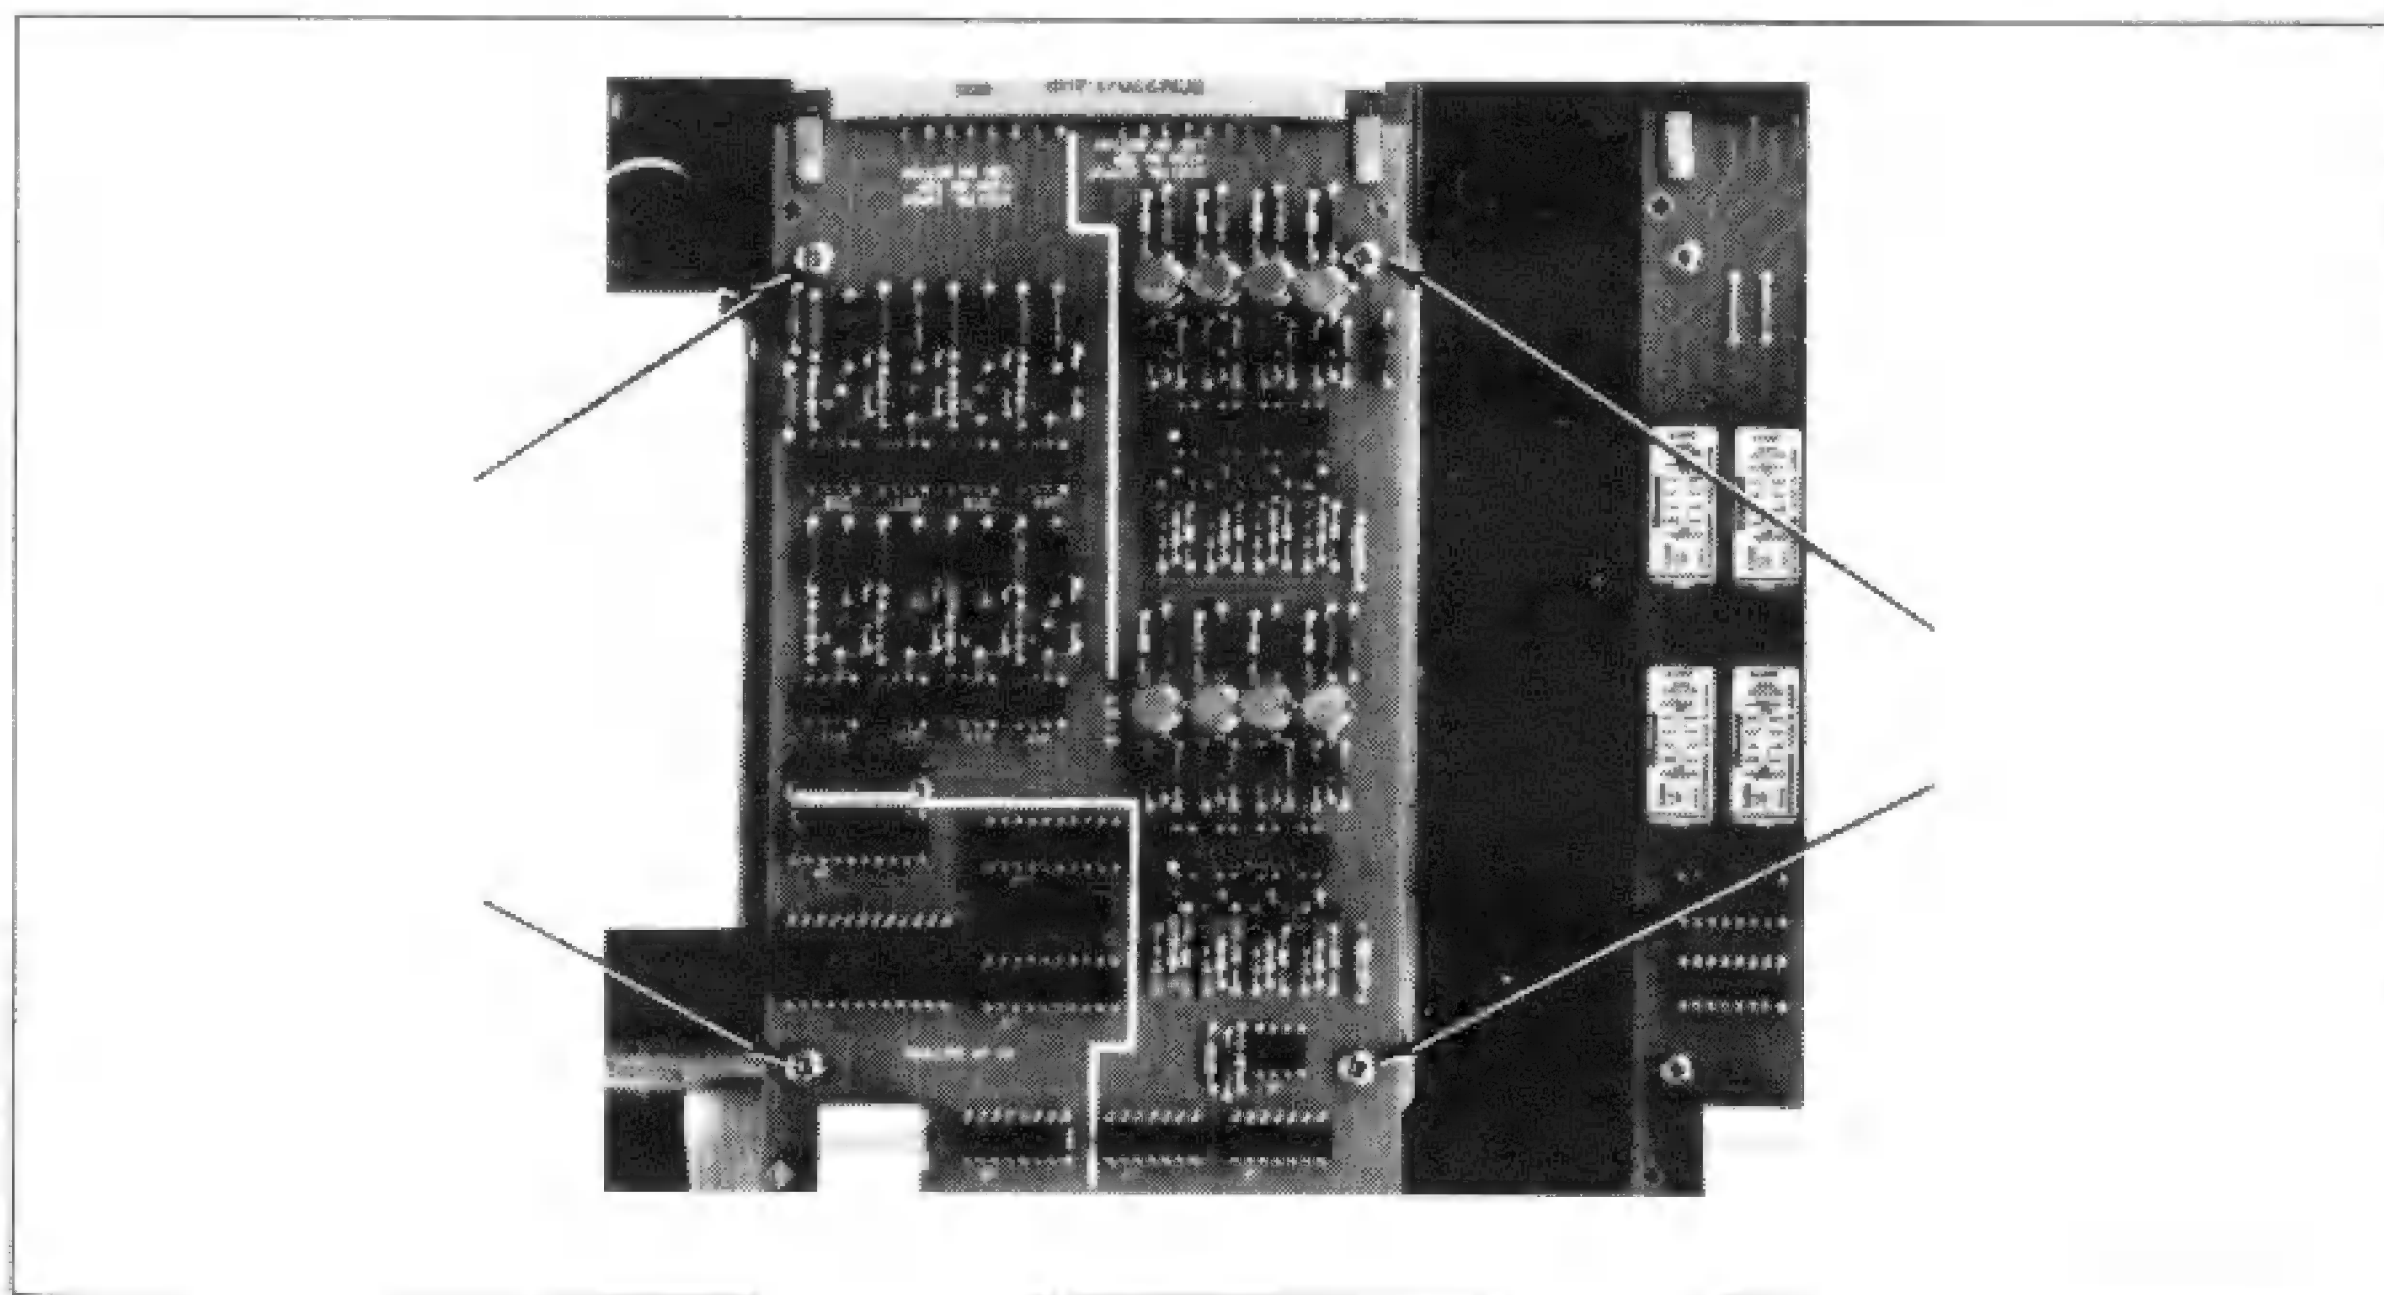

**Figure 4-2-2. Remove Main Battery Fuse**
- d. Refer to Figure 4-2-2 and locate the battery fuse toward the right rear of the instrument. Remove it from its socket. Instead of removing the fuse, you can unplug the red wire from the battery. If this is done, make sure the wire is placed out of the way and away from the battery.